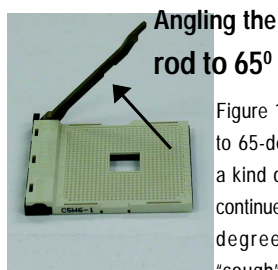
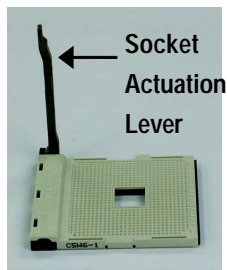
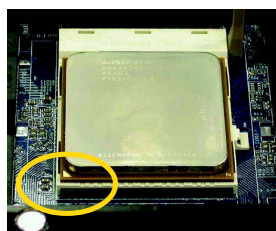

Figure 1. Angling the rod to 65-degree maybe feel a kind of tight, and then continue pull the rod to 90-degree when a noise "cough" made.
Figure 2. Pull the rod to the 90-degree directly.
Figure 3. A1 pin location on the Socket and Processor. Move the socket lever to the locked position while holding pressure on the center of the processor.
Step 1-1. First, check the processor pins to see that none are bent. Move the socket lever to the unlocked position as shown in Figure 1 & Figure 2.(90° to the plane of the motherboard) prior to inserting the processor. The A1 pin location is designated on the processor by a copper triangle that matches up to a triangle on the socket as shown in Figure 3. Align the processor to the socket and gently lower it into place. Do not force the processor into the socket.